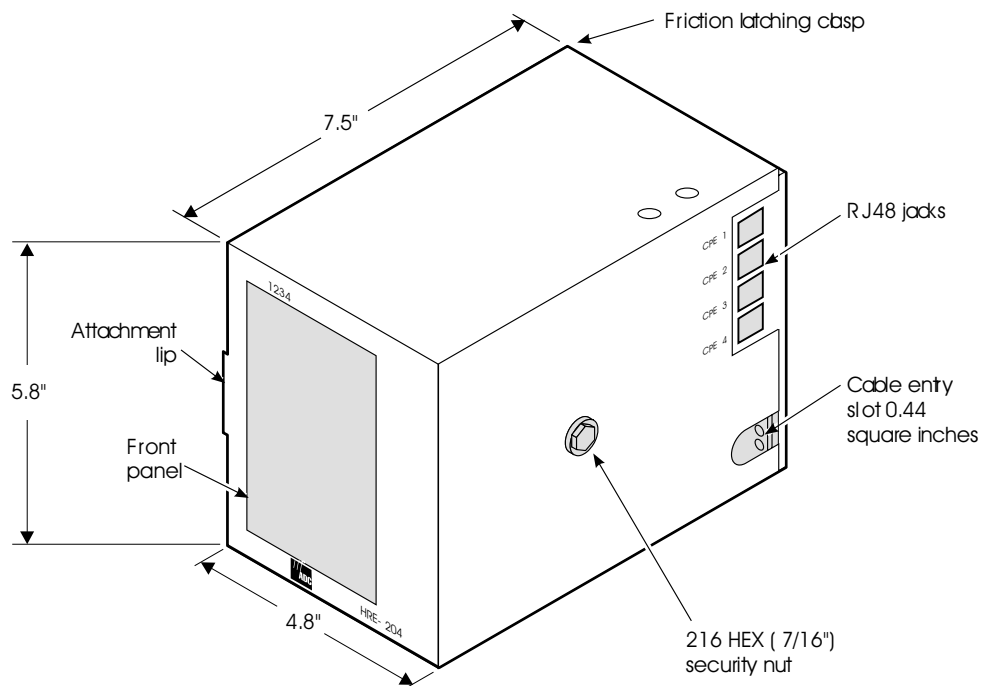

Figure 4. Side Panel Assembly
- 1 Loosen the 216 HEX security nut on the side panel (Figure 4) with a $\frac{7}{16}$ -inch CAN wrench.
- 1 Loosen the 216 HEX security nut on the side panel (Figure 4 on page 5) with a $\frac{7}{16}$ -inch CAN wrench.